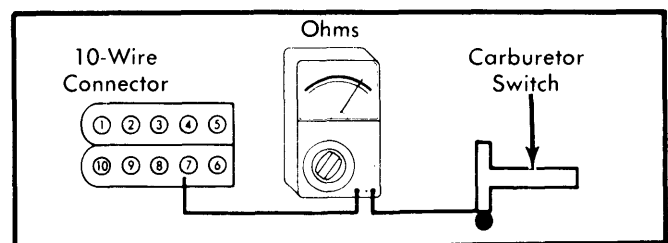
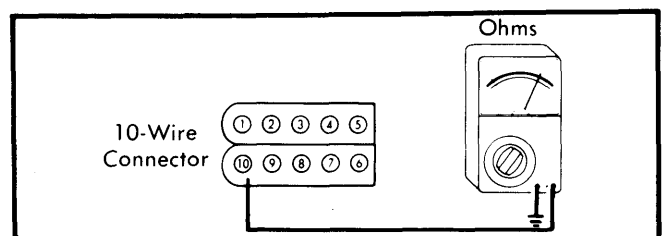

Fig. 10 Ohmmeter Hookup for Checking Carburetor Switch Wiring Harness
Fig. 11 Ohmmeter Hookup for Checking Computer Ground Circuit
9) If voltage at terminal 2 was correct, turn ignition switch off. Using an ohmmeter, check continuity between terminal 7 of 10-wire connector and carburetor switch terminal. See Fig. 10. Continuity should exist. If not, check wire between connections for opens, shorts or poor connections. If continuity is present, use an ohmmeter with leads attached to terminal 10 and engine ground to check continuity of ground circuit. See Fig. 11. If there is continuity, replace computer. If there is no continuity, check wire from terminal 10 to ground. If engine fails to start, proceed to next step.